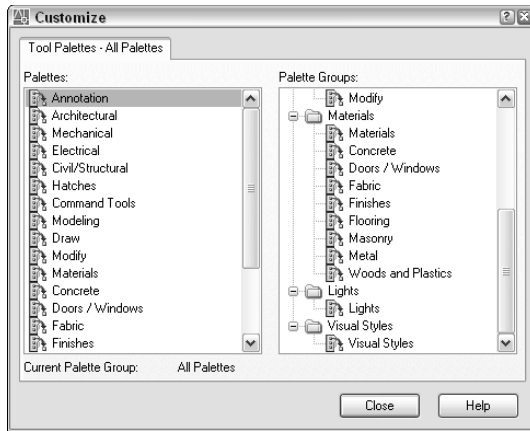

**Figure 29-12:** The Tool Palettes tab of the Customize dialog box.
To customize tool palettes, choose Tools ⇨ Customize ⇨ Tool Palettes to display the Customize dialog box, shown in Figure 29-12. The current tool palettes are listed. Remember that each tab on the Tool Palette window is considered a separate tool palette.
- ♦ **Organize tool palettes into groups:** In the Palette Groups area, right-click and choose New Group. Enter a name for the group and press Enter. From the Tool Palettes list on the left side of the dialog box, drag one or more tool palettes under the group name on the right, as you see in Figure 29-12.